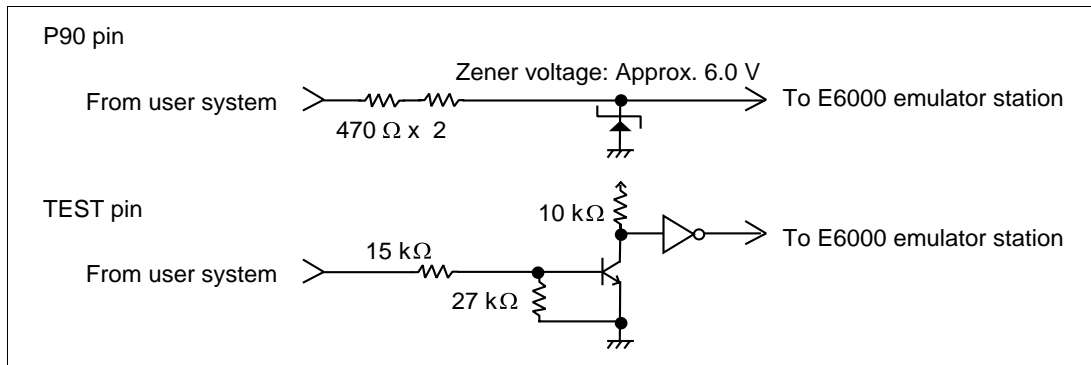

Figure 11 P90 and TEST Pin Protection Circuits
6. The P90 and TEST pins of the H8/3657 series have the protection circuits shown in figure 11.